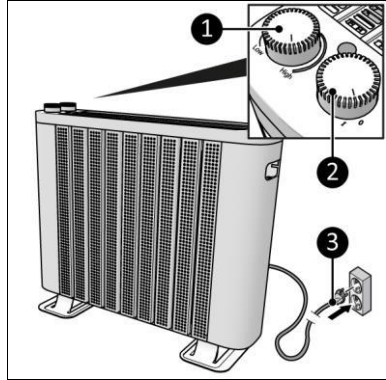

Figure 5
4. Make sure the ON/OFF knob is in the OFF position (Figure 5, pos. 2).
5. Put the power plug (Figure 5, pos. 3) into an earthed wall socket that is easily accessible. Use an earthed wall socket with a minimum power of 1000 Watt.
1. Make sure the ON/OFF knob is in the OFF position (Figure 5, pos. 2).